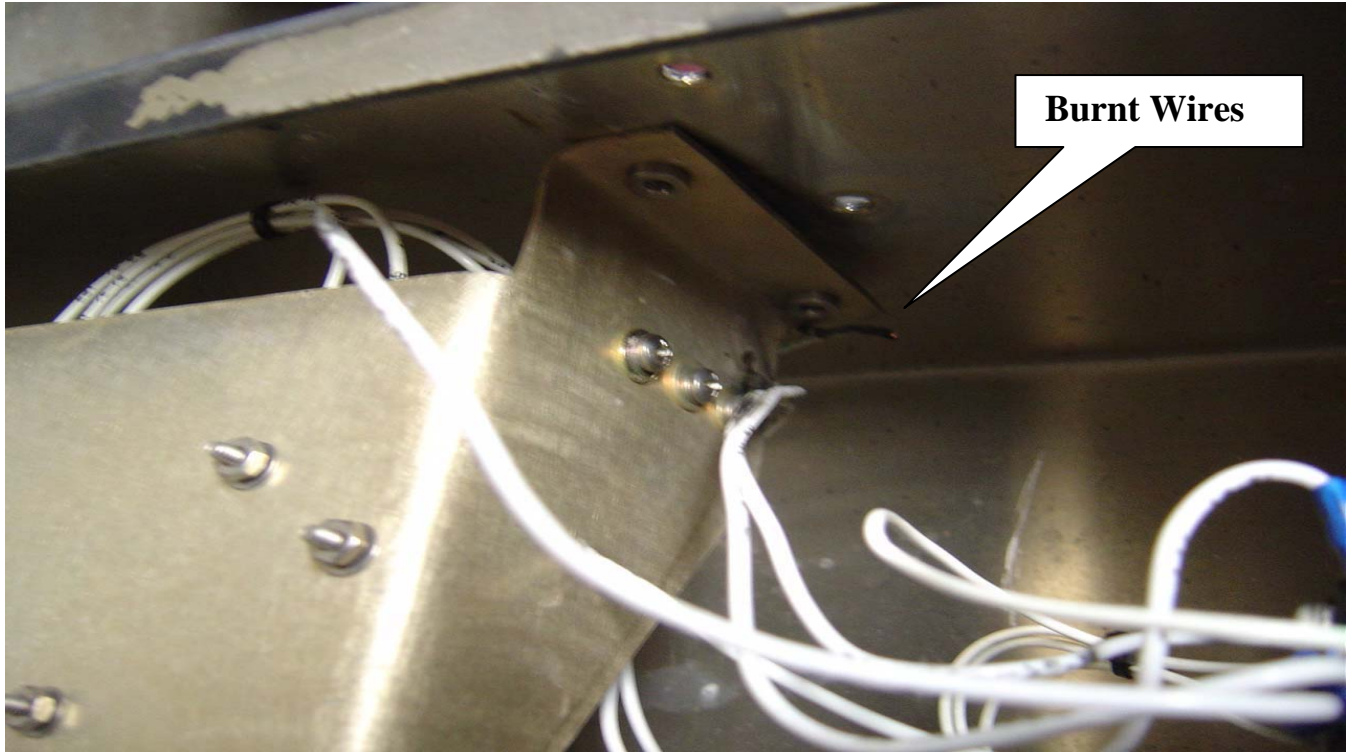

Fig 1
1.0 ISSUE. The insulation on the contactor control switch harness wires that are routed underneath the CCA metal bracket can be rubbed off by contact with the bracket. This allows the wire to short to the bracket as seen in Figures 1 and 2 below.